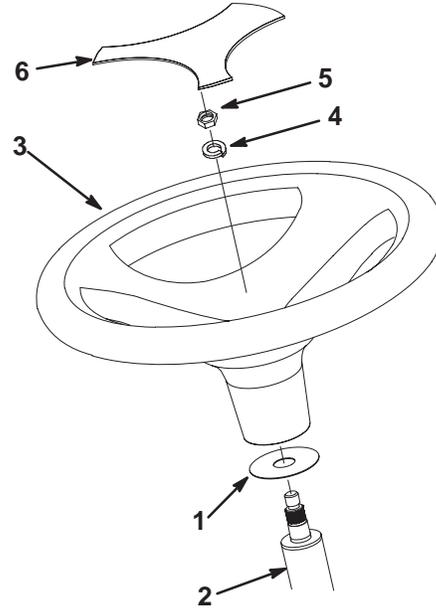

Figure 2
- Secure the steering wheel to the shaft with a lock washer and nut (Fig. 2). Tighten the retaining nut to 45–50 ft–lbs.
- Install the boot washer onto the steering shaft (Fig. 2).
- Remove the plastic trim cover from the steering wheel (Fig. 2)
- Install the steering wheel onto the shaft, carefully aligning the splines (Fig. 2).